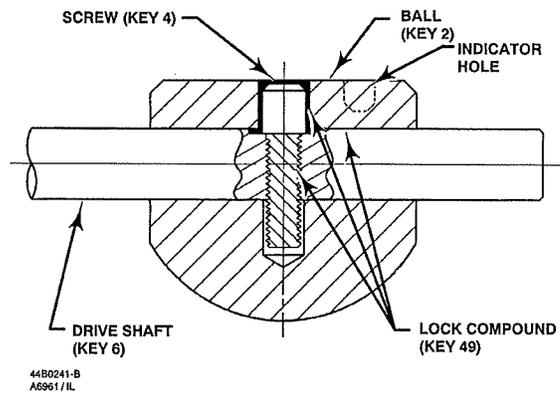

Figure 22. Screw Installation for Design V200, Size 1-Inch Valves with VTC Ceramic Micro-Notch Ball Construction
2. **Ceramic Micro Notch ball constructions:** A screw (key 4, figure 22) is used to attach the ball to the drive shaft.
- a. The parts are held together with a screw and an adhesive. Remove the screw (key 4) and separate the drive shaft from the ball. In some cases, a small amount of heat can be applied to help loosen the adhesive. However, excessive heat may damage other valve component parts.
4. Unscrew the pipe plug (key 25). (The pipe plug is optional and may not be available.)
5. Working from the small end of the groove pin (key 7), use a pin punch to drive the groove pin out of the ball ear and follower shaft.
Valves with 1-inch ceramic micro-notch balls use a screw with a threaded valve shaft to connect the ball to the shaft. An adhesive is used to lock the screw in the valve shaft (keys 4 and 6, figure 22).